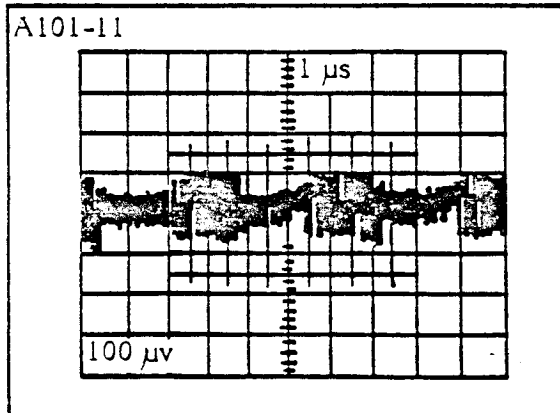

Figure 1. Output Signal
- c. Adjust head-adjust screw clockwise or counter-clockwise and look for a signal of 300MV or greater (The manual's reference to a 50MV signal is incorrect and will be corrected in the next revision of the manual.). Refer to Figures 1 and 2 on the following page for examples of waveform patterns before and after head alignment. (If signal stops, rewind tape and press PLAY again. Repeat procedure as necessary until alignment is complete.)